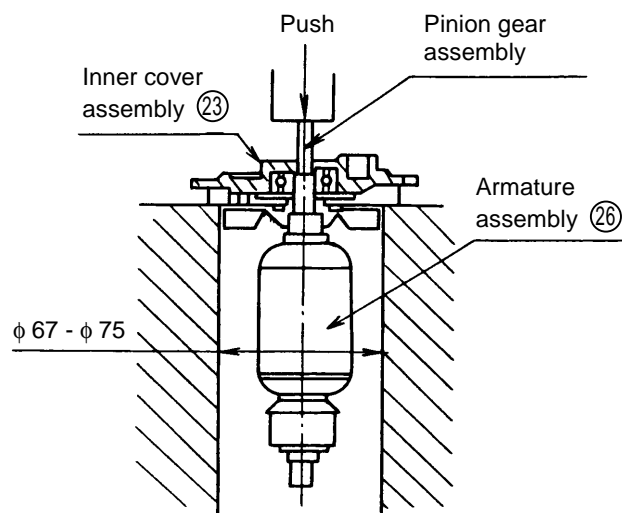

Fig. 4
- (4) Pull out the armature assembly from the inner cover assembly. Receive inner cover assembly ②③ with the cylindrical jig, and push the tip of the pinion gear or armature assembly ②⑥ as shown in Fig. 4.